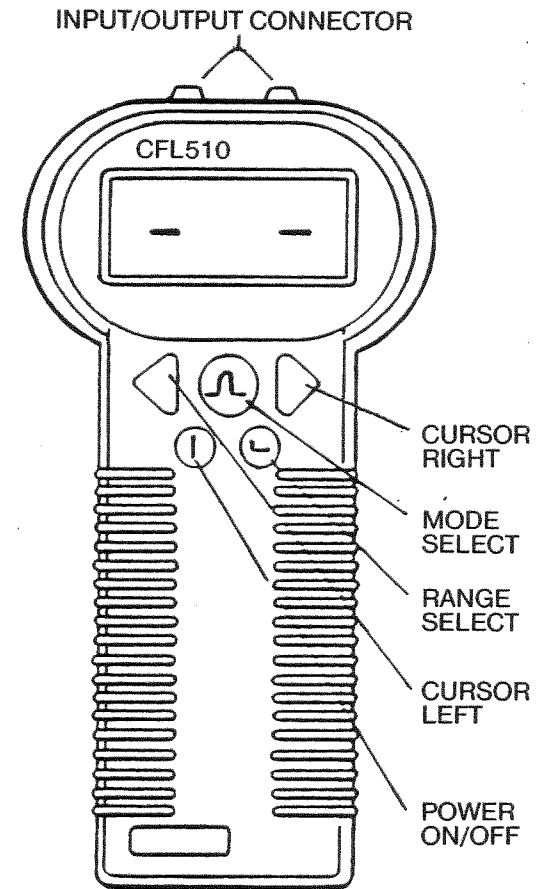

Figure 1: CFL510 Controls
- Controls and Connectors (see Figure 1)**